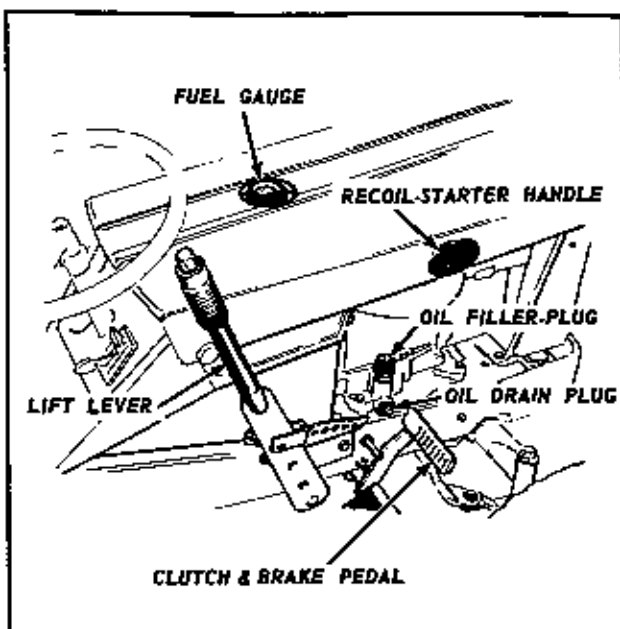
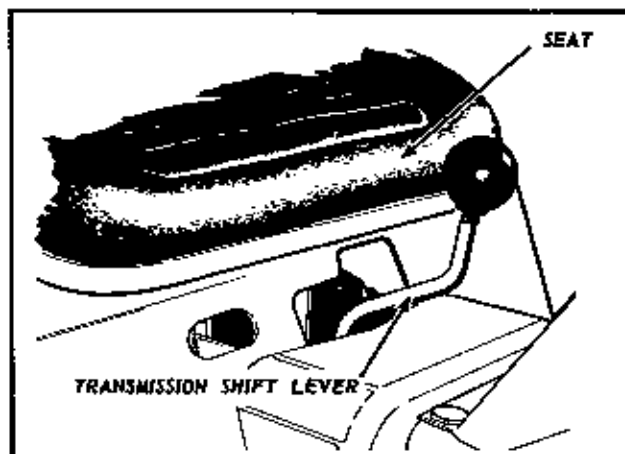

Figure 2
Figure 3
3. Depress the clutch pedal, Fig. 2, with the right foot.
5. Grasp the handle of the recoil starter, Fig. 2, with the right hand and pull sharply toward you. If engine starts on first pull, slowly move the choke lever to the off position as the engine warms up. Should the engine fail to start on the first or second pull move the choke lever to the off position to avoid flooding the engine with fuel. When re-starting a warm engine, it should not be necessary to use the choke.
Travel direction of the tractor is regulated by the position of the transmission shift lever, Fig. 3. Merely depress the clutch pedal, Fig. 2, with the right foot, and with the heel of your hand, move the shift lever into the desired "HI", "LO", or "REVERSE" position. Slowly release the clutch lever and move off, regulating speed of travel by the position of the throttle lever.